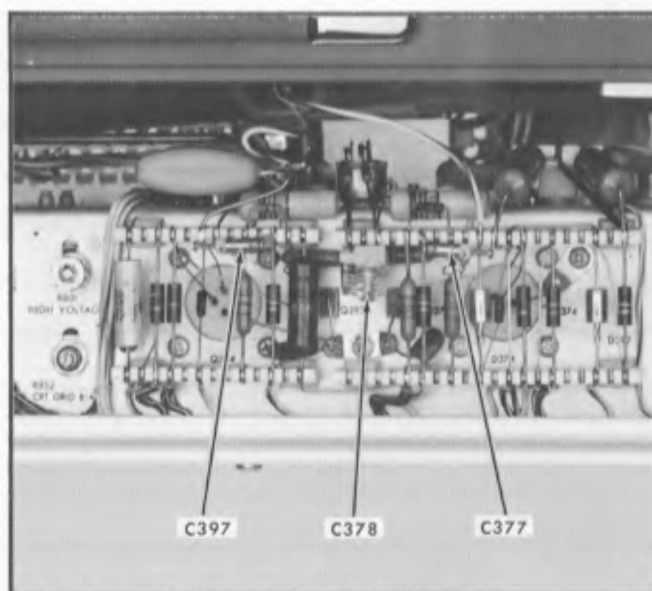

Fig. 6-19. Location of C377, C397 and C378.
- ADJUST—C377 and C397 (see Fig. 6-19) for best linearity from the center vertical graticule line to the first and ninth centimeter graticule lines, then adjust C378 (see Fig. 6-19) for exactly 8 cycles between the first and ninth centimeter graticule lines.